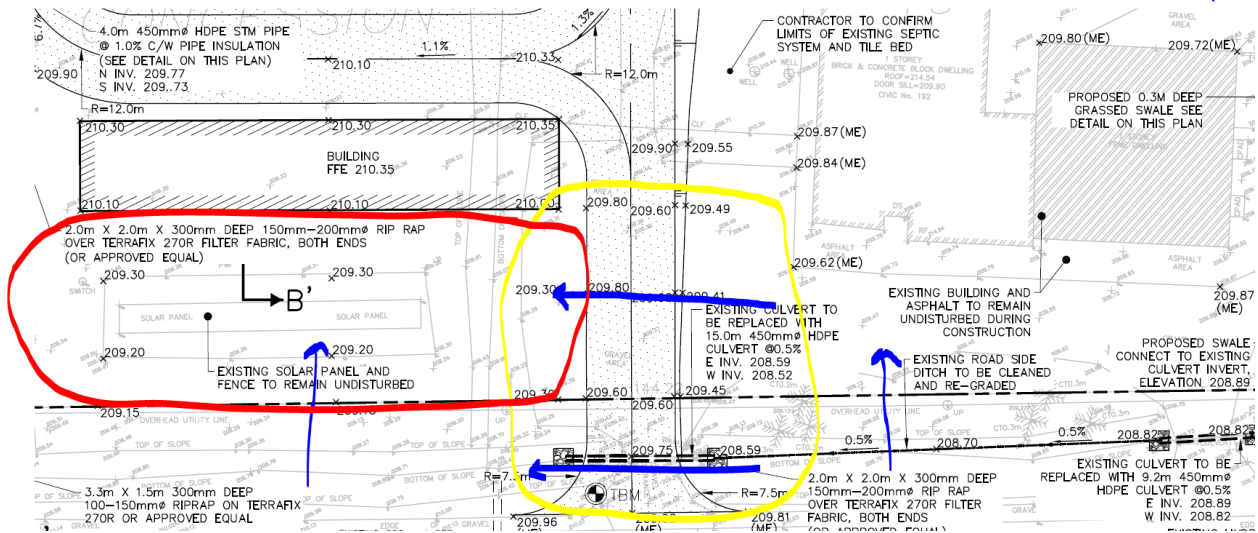

Figure 1 - Snapshot of Site Grading Plan
1. Under existing conditions, flood water is conveyed onto/across the site as represented by the blue arrows on Figure 1.
- a) Under the proposed conditions, with the new raised laneway and raised entrance, the flood water needs to rise above 209.60m to spill across into the floodplain storage area identified by the red line on Figure 1.